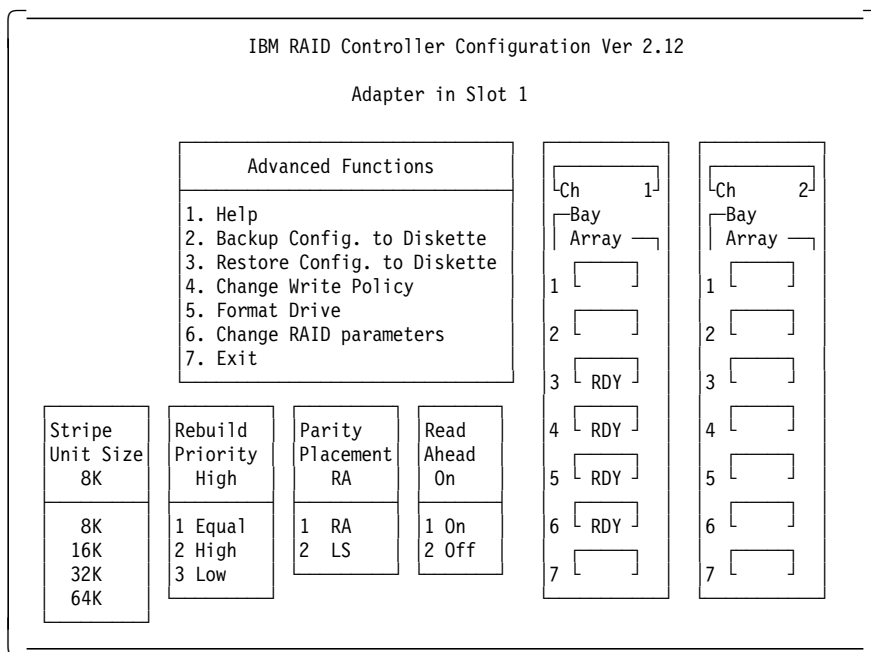

Figure 31. RAID Configuration Program - Change RAID parameters
**Change RAID Parameters:** The panel for changing RAID parameters is shown in Figure 31.